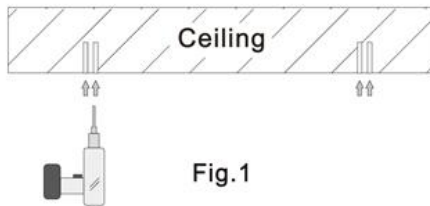

Fig.1
- Step 1: Drill 4 Ø6mm holes on the ceiling with electric drill. (as Fig.1)